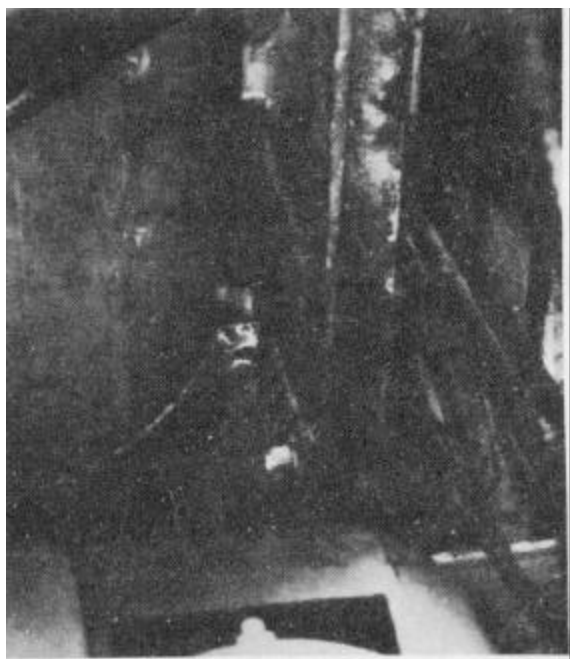

Figure 5-117
4. Back off the two nuts at the base of the pump motor mounting bracket. Back off a minimum of three turns (Fig. 5-117).